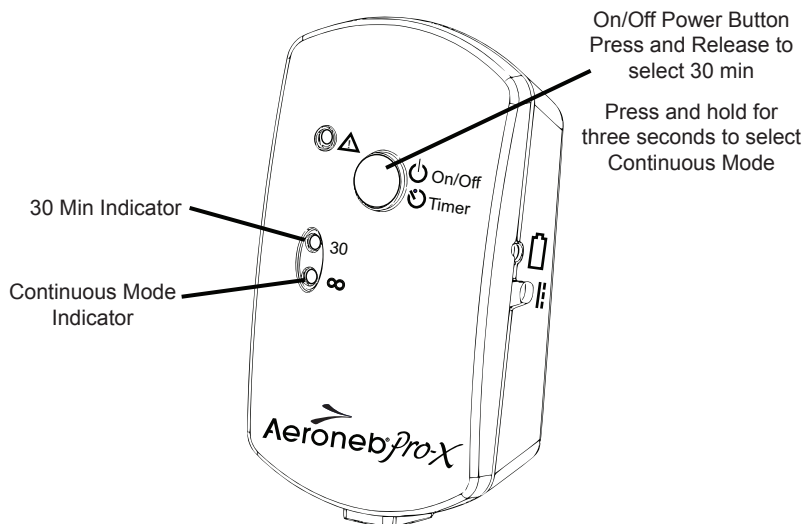

Figure 17: Starting and stopping nebulization
1. To start a 30 minute nebulization cycle, add the medication and press and release the blue on/off power button (Figure 17). The green *30 Min.* indicator LED illuminates to indicate that the 30 minute nebulization cycle is in progress.